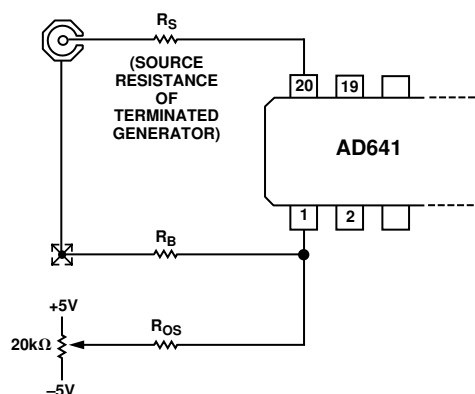

Figure 25. Optional Input Offset Voltage Nulling Circuit; See Text for Component Values
In most applications there will be no need to use any offset adjustment. However, a general offset trimming circuit is shown in Figure 25. R_S is the source resistance of the signal. *Note: 50 Ω rf sources may include a blocking capacitor and have no dc path to ground, or may be transformer coupled and have a near zero resistance to ground.* Determine whether the source resistance is zero, 25 Ω or 50 Ω (with the generator terminated in 50 Ω) to find the correct value of bias compensating resistor, R_B , which should optimally be equal to R_S , unless $R_S = 0$, in which case use $R_B = 5\text{ }\Omega$. The value of R_{OS} should be set to 20,000 R_B to provide a $\pm 250\text{ }\mu\text{V}$ trim range. To null the offset, set the source voltage to zero and use a DVM to observe the logarithmic output voltage. Recall that the LOG OUT current of the AD641 exhibits an *absolute value response* to the input voltage, so the offset potentiometer is adjusted to the point where the logarithmic output "turns around" (reaches a local maximum or minimum).
R4 is identical to R2, and in shunt with R3 (270 Ω thin film) forms a 27 Ω resistor with the same TC as the output resistance of the attenuator. By connecting Pin 1 to ATN LOW (Pin 2) this resistance minimizes the offset caused by bias currents. The offset nulling scheme shown in Figure 25 may still be used, with the external resistor R_B omitted and $R_{OS} = 500 \text{ k}\Omega$. Offset stability is improved because the compensating voltage introduced at Pin 20 is now PTAT. Drifts of under $1 \mu\text{V}/^\circ\text{C}$ (referred to Pins 1 and 20) can be maintained using the attenuator.
Cascaded AD641s can be used in dc applications, but input offset voltage will limit the dynamic range. The dc intercept is 6 μ V. *The offset should not be confused with the intercept*, which is found by *extrapolating* the transfer function from its central “log linear” region. This can be understood by referring to Equation (1) and noting that an input offset is simply additive to the value of V_{IN} in the numerator of the logarithmic argument; it does not affect the denominator (or intercept) V_X . In dc coupled applications of wide dynamic range, special precautions must be taken to null the input offset and minimize drift due to input bias offset. It is recommended that the input attenuator be used, providing a practical input range of -74 dBV (± 200 μ V dc) to $+6$ dBV (± 2 V dc) when nulled using the adjustment circuit shown in Figure 25.